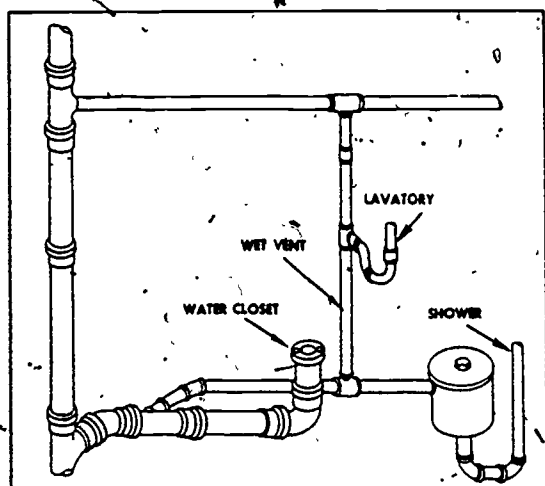

Figure 2-22. Group of fixtures with wet vents
**Wet vent.** Sometimes it is permissible to wet vent a fixture trap. A wet vent is that portion of the pipe through which liquid wastes must flow from another fixture which is itself individually vented. A shower trap which is wet vented through the lavatory waste pipe is illustrated in figure 2-22.